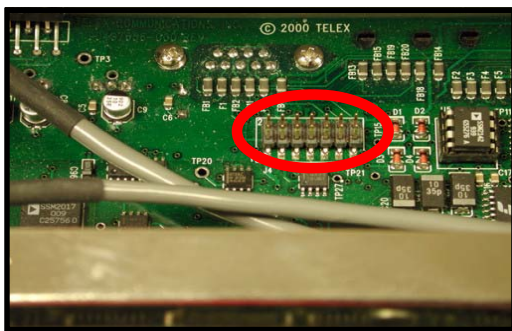

Figure 6. The J4 connector on the KP-32 board.
4. Securely connect the RVON-1 card to the KP-812 mother board, see figure 6 for connector specifics.
In the KP-32 keypanel, the RVON-1 card connects to the KP-32 by way of the J2 connector on the RVON-1 attached to J4 on the KP-32 header. Gently secure the board in place. See Figure 6.